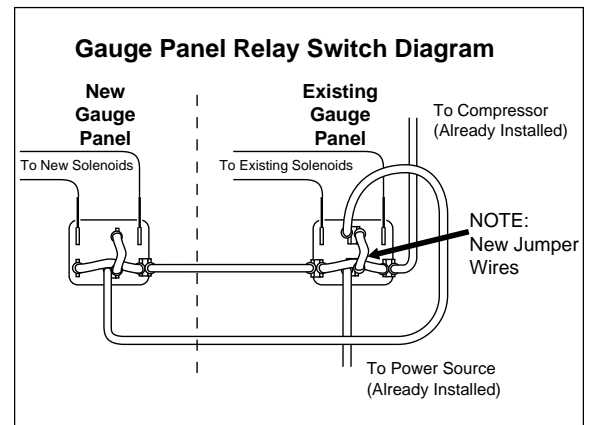

Figure 5
2. Determine the amount of wire needed to connect the two gauge panels. Cut and strip the wire, attaching female blade connectors on both ends. Install one end on the male blade connector attached to the top center terminal on the original gauge panel, and install the other end on the male blade connector attached to the bottom center terminal on the new gauge panel (Figure 5).
3. Determine the length of the second wire need to connect the 2 panels. Strip both ends and attach female blade connectors, in this case installing them on the male blade connectors on the lower left terminal of the original gauge panel and the lower right terminal of the new gauge panel (Figure 5).